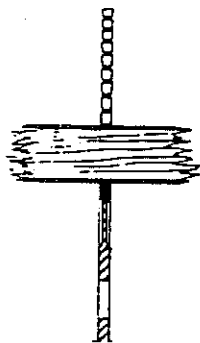

Fig.24
- 1) Scoring blade with the thickness equal to the saw blade's one (fig.24)